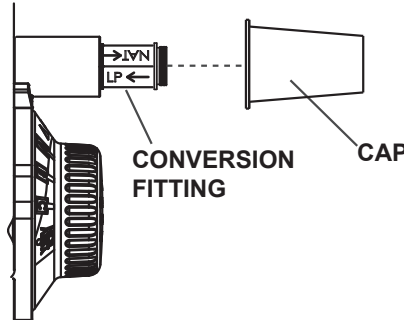

Figure 38: Gas Conversion
Check the setting of the conversion fitting in the gas control valve (Figure 38).
Make sure both the conversion fitting (Figure 38) and the manifold burner assembly (see door label) are for the type of gas supplied to your home.
- Remove the cap (shown in Figure 38).
- If you are converting the unit to use natural gas, verify that the "NAT" arrow on the fitting is pointing toward the gas control valve/thermostat. The blue band on the fitting should touch the metal boss. See Figure 38.